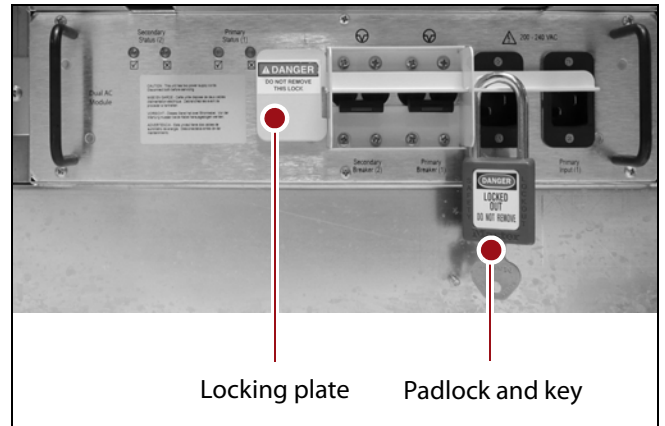

Figure 32 Slide the locking plate through the lock base plate so that it covers the breaker switches and install the padlock.
5. If the AC breaker lock is present, install the AC breaker locking plate over the breaker switches and install the padlock (see Figure 32).